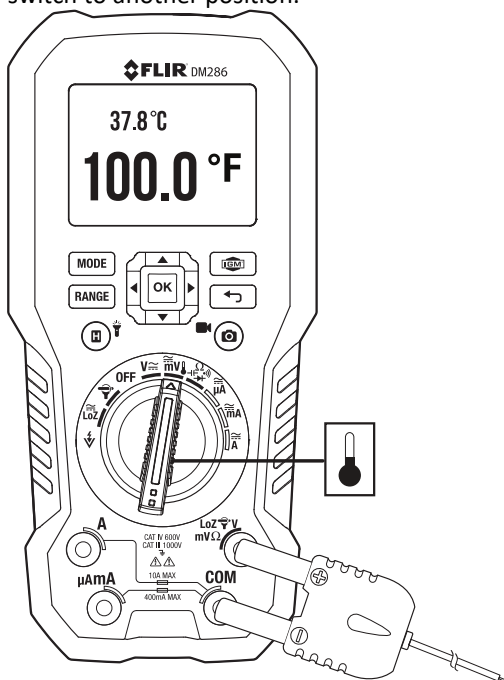

Fig. 9.8 Temperature Measurements
1. Set the function to the Temperature  position. See **Fig. 9.8**.